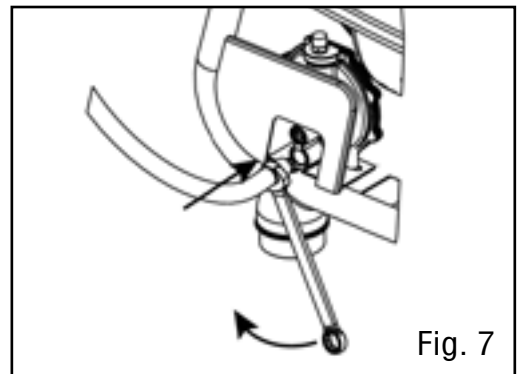

Fig. 7
2. With the LPG tank closed, attach the LPG regulator connecting hose into the valve. Turn the plastic coupling from the hose right (clockwise) to tighten hose assembly onto the LPG tank (Fig. 7).